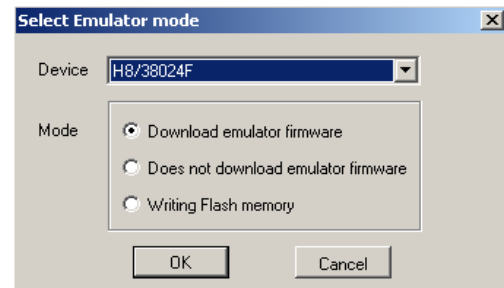

Figure 6: Emulator Mode Selection
- i.) Select “Download emulator firmware”. (Figure 6)